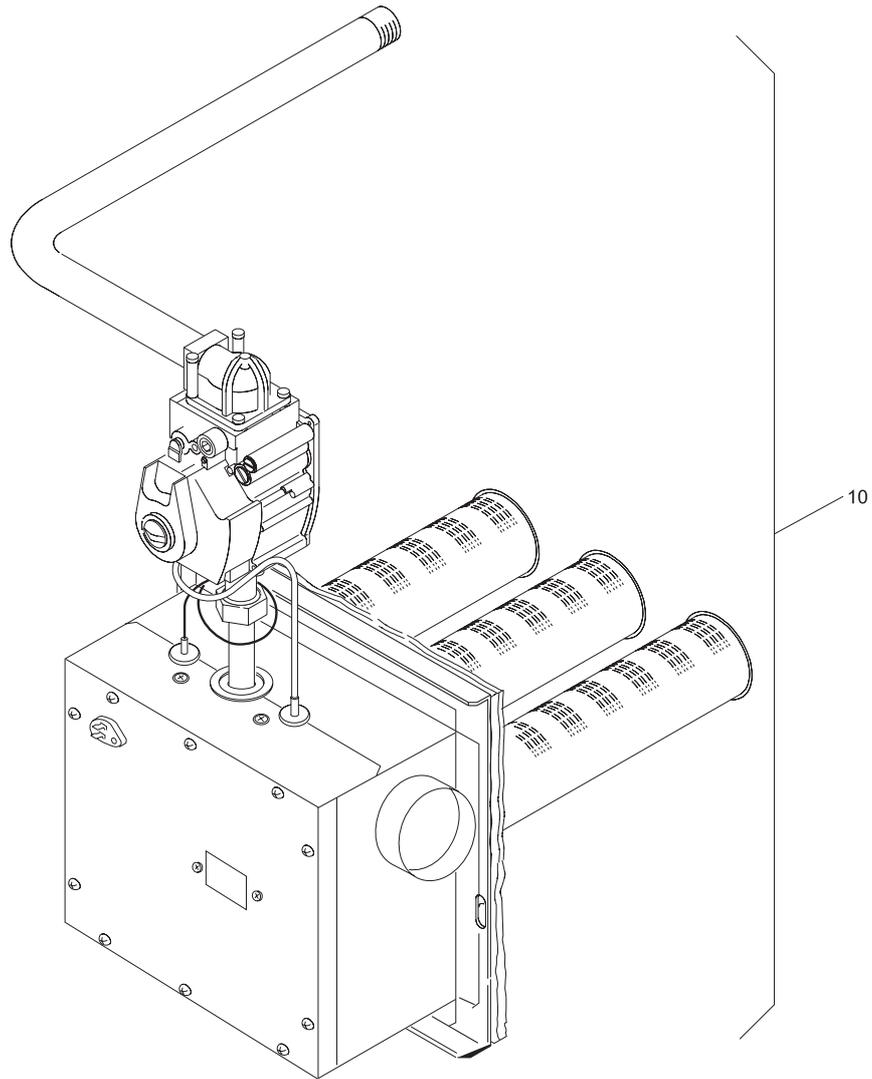

Fig. 64 Gas burner CE124
**Gas burner CE124 (→ Fig. 64)**